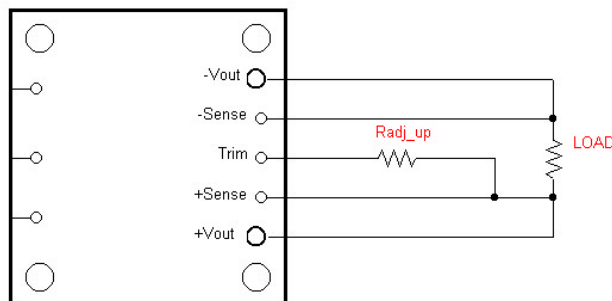

Figure 3. Radj_up Setup to increase Output Voltage.
- For Output Voltage Adjustment setup, refer to Figures 3 and 4. For $V_{IN} < 39\text{V}$, the output can only be trimmed up 5% and the minimum OVP clamp is reduced to 12.75V.
To adjust Vo to a higher value, please refer to Figure 3. An external resistor, **Radj_up** should be connected between the Trim Pin and the +Sense Pin. From Equation (1), Radj_up resistor can be determined for the required output voltage increment.